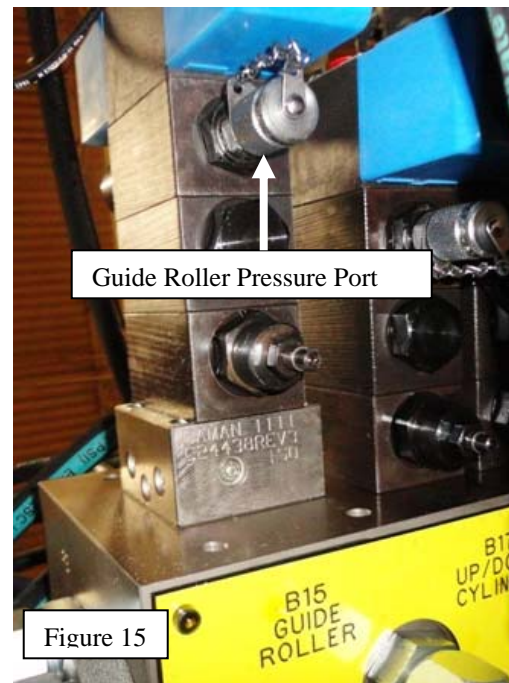

Figure 15
2. Install gage at Guide Roller Cylinder pressure tap (Figure 15) that is being tested and turn on pump.